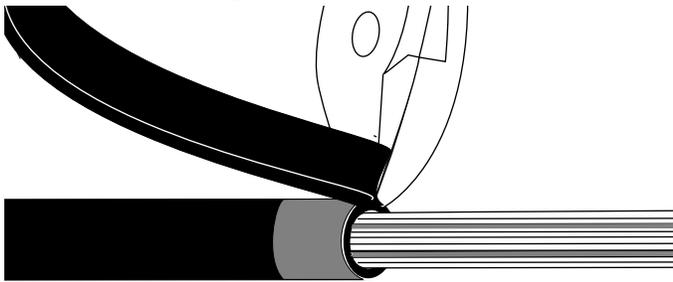

Figure 9
5.8 Trim off the split section of sheath at the tape mark with side cutters (Figure 9) or scissors.